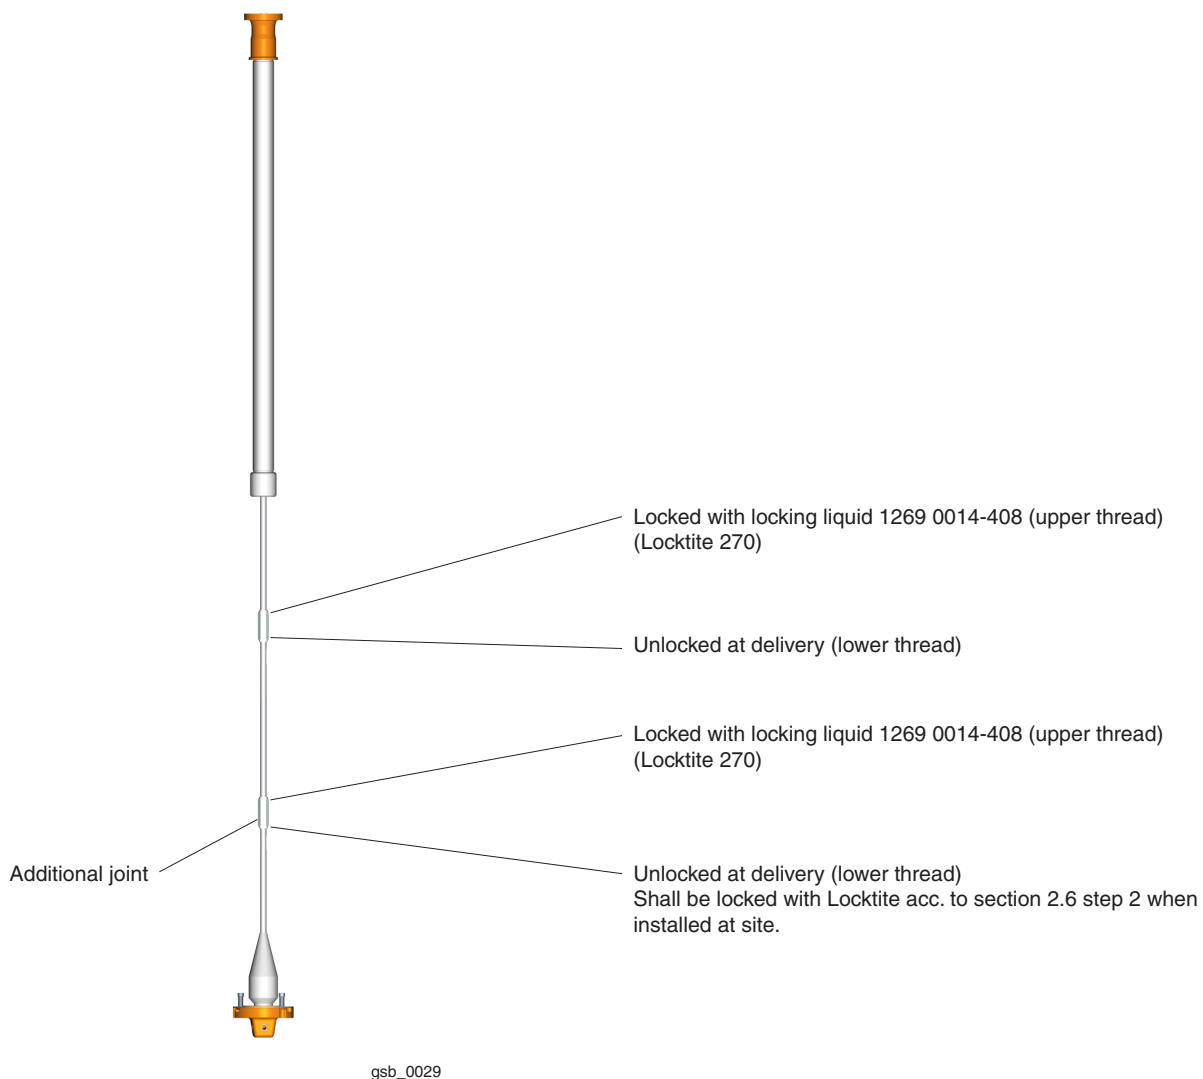

Fig. 13.
2. If the draw rod is supplied with an additional joint, e.g. to make it possible to remove a bushing turret for transport, the additional jointing sleeve shall be locked with locking fluid (Loctite 242 and activator Loctite T747) at site in order to avoid an unintended loosening of this joint at an eventual dismounting of the draw rod system later on. Fig. 13 shows the joints that are locked at delivery.